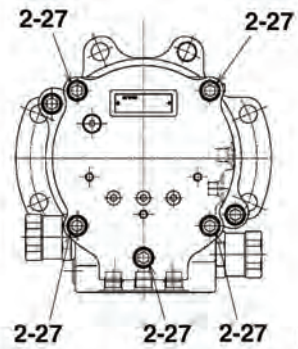
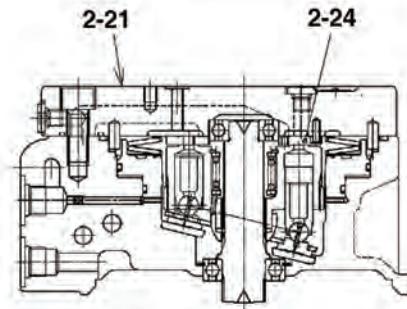
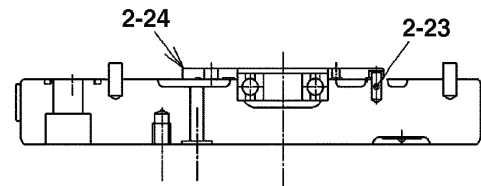
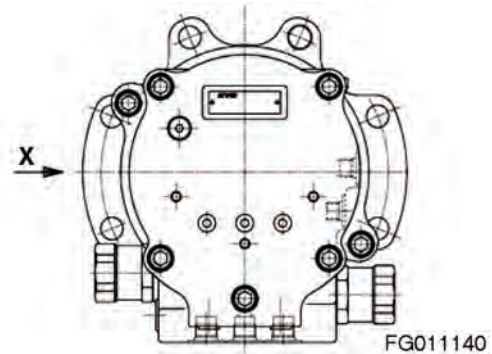

Figure 16
Figure 17
Figure 18
Figure 25
Remove socket head bolts (2-27, Figure 16) and separate cover (2-21, Figure 17).
When separating cover (2-21, Figure 17), be careful not to drop valve plate (2-24, Figure 25).
2. Remove valve plate (2-24, Figure 17) and pin (2-23, Figure 18).
NOTE: The valve plate (2-24, Figure 17) may remain on motor side.